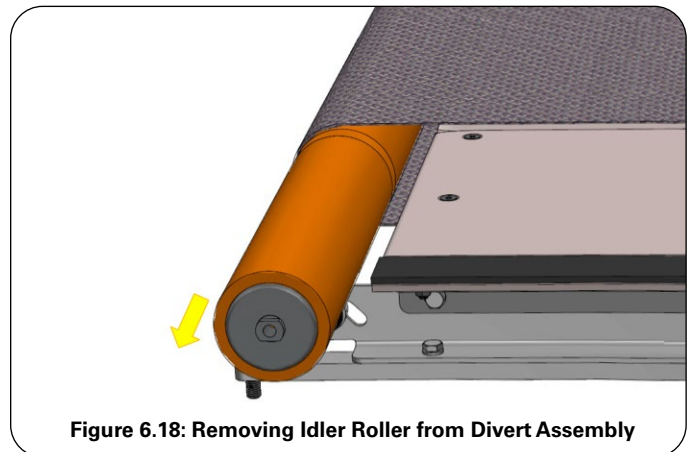

Figure 6.18: Removing Idler Roller from Divert Assembly
- g. Turn the Divert Assembly over and remove the Idler Roller. See Figure 6.18.